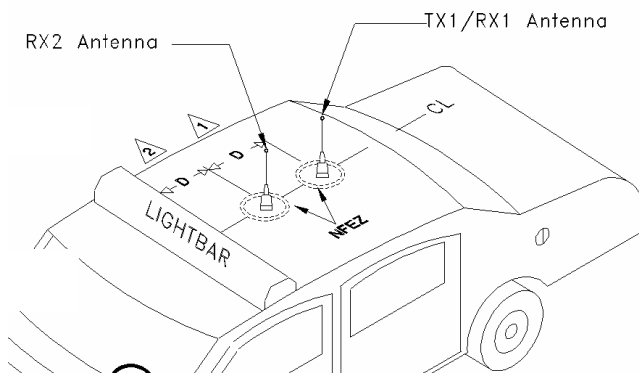

Figure 11
Step 1 Install antennas (see sample drawing DT450-10-0201 and Fig. 11 below).
NOTE: Figure 11 represents the recommended front-to-rear antenna installation. The receiver antenna (RX2) should be the antenna nearest to the light bar.